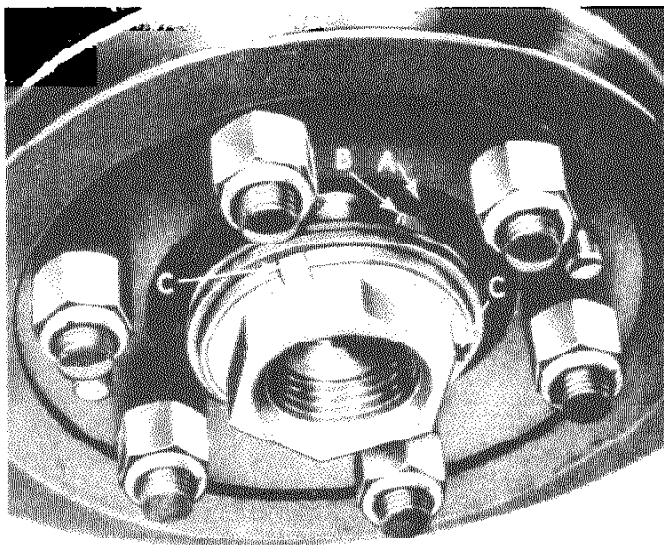

Figure D25
- (ii) That a new crankshaft nut locking washer is used. Fig. D25.